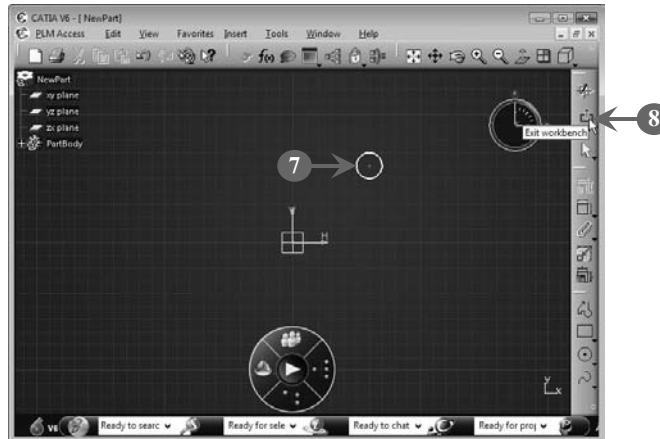

FIGURE 4.26
The Sketcher workbench gets displayed with the *xy*-plane as the sketching plane (**Figure 4.26**).
7. Draw a sketch in the Sketcher workbench (Figure 4.26).
8. Click the **Exit workbench** button on the Workbench toolbar to exit the Sketcher workbench, as shown in Figure 4.26: